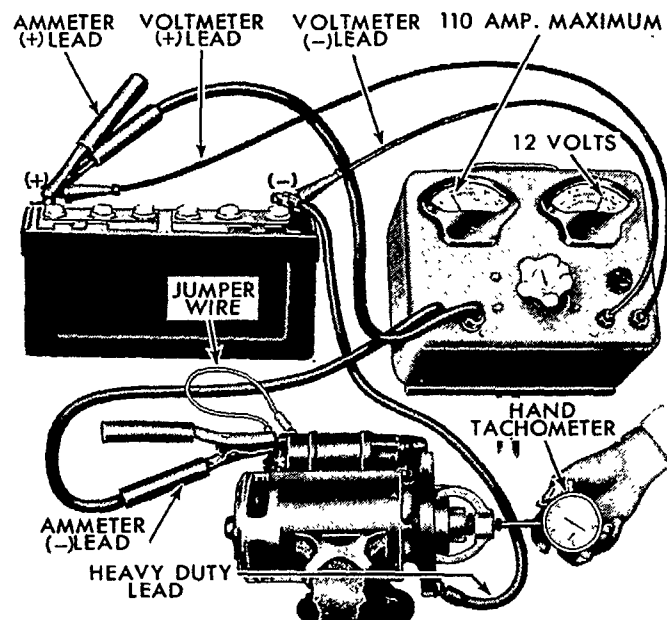

Figure 53
2. **5-Inch Starting Motor:** Perform the no-load test with reference to Figure 53.